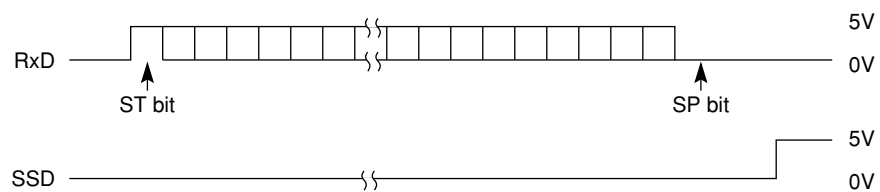

Figure B-3-4
• Yes Is the RxD of Q3 as specified in Figure B-3-4?
② In receiving by serial interface, printing data is omitted or printing operation is not performed.
• Are RxD and SSD of Q3 as specified in Figure B-3-4?